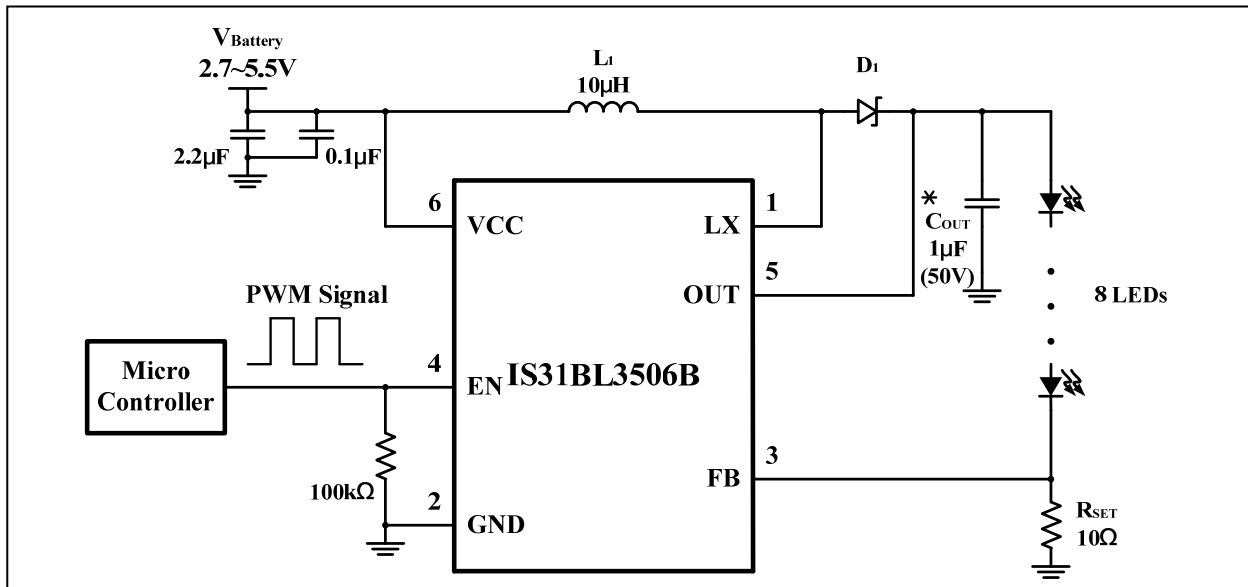

Figure 1 Constant Current White LED Driver Using PWM At The EN Pin To Control Intensity
When the IS31BL3506B is used for LED driving applications (Figure 1), the LED current flows through the external feedback resistor R_{SET} to regulate the LED current. The internal feedback regulation point is 0.2V. The maximum LED current may be calculated by the following equation, (1).